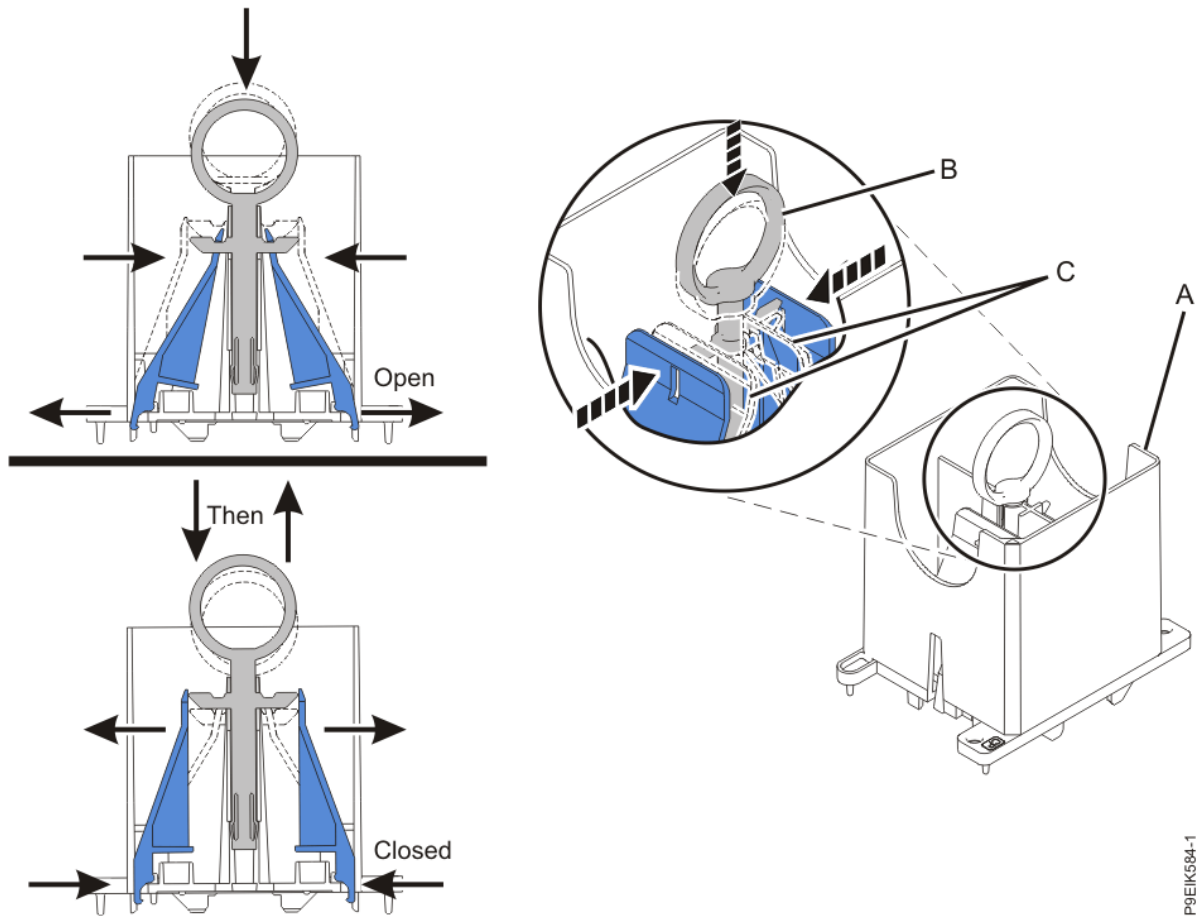

Figure 19. Ensuring that the removal tool is in the open position
- a) Ensure that the removal tool is in the open position as shown in Figure 19 on page 22. The middle ring must be pushed down and blue tabs must be turned inward.